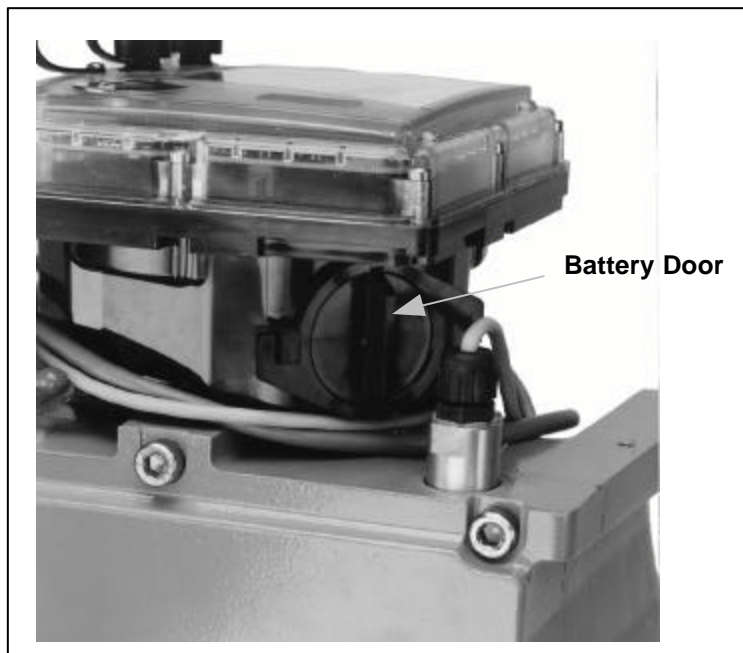

Figure 7.1 Battery Compartment Access
Two 3.6V lithium (D-Cell) batteries power the meter and are contained in a separate battery compartment inside the index housing (see Figure 7.1). To access the battery compartment, the external cover must first be removed.
2. Lift the cover away from the measuring unit, and locate the battery compartment access door (see Figure 7.1).
4. Open the battery compartment access door by grasping the door handle and rotating the door counter-clockwise (see Figure 7.1).